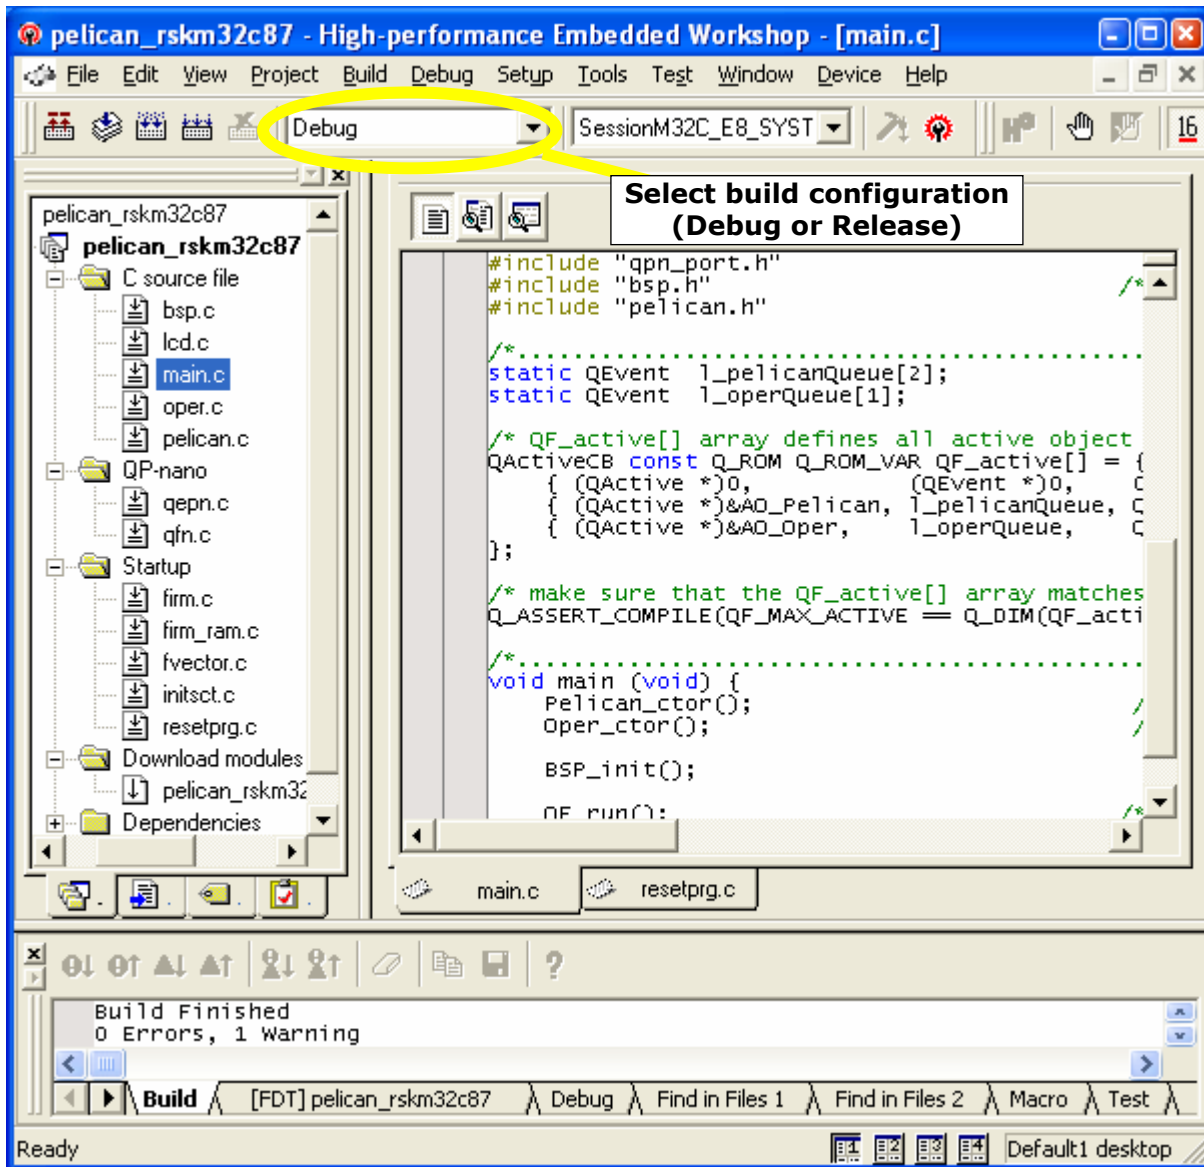

Figure 2 HEW IDE with the pelican_rskm32c87 project
The example directory contains the HEW workspace file `pelican_rskm32c87.hws` that you can load into the HEW IDE. The workspace contains two build configurations (Debug and Release) that you can select with the drop-down list, as shown in Figure 2.
3. Launch HEW IDE and open the project `pelican_rskm32c87.hws` (located in `<qp_n>\examples\m16c\nc308\pelican_rskm32c87\`). Figure 2 shows the screen shot of the HEW IDE after opening the project.
NOTE: The PELICAN example workspace comes with two build configurations: Debug and Release. You select the build configuration through the drop-down box, as shown in Figure 2.
The HEW debugger can directly communicate with the E8 In-Circuit Debugger (see Figure 1). To load the code into the MCU's flash, select Debug | Download Modules menu (see Figure 2). This will launch the progress-bar message box. When the message box window goes away, the MCU is programmed.